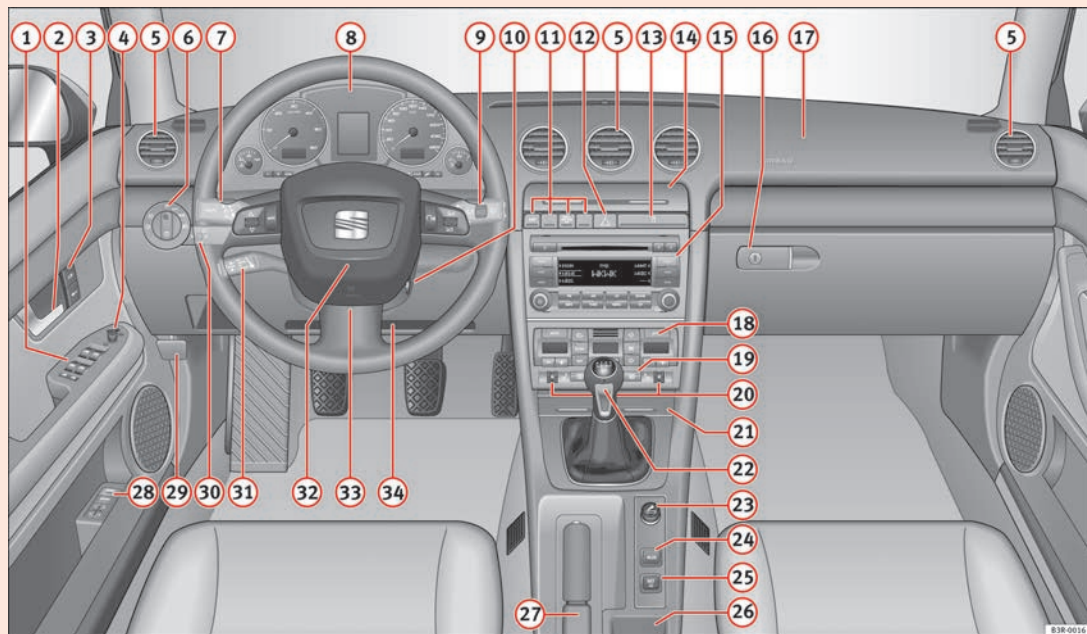

Fig. 36 Some of the equipment listed in this section is only fitted on certain models or are optional extras.
- The arrangement of switches and controls on right-hand drive models\* may be slightly different from the layout shown in ⇒ fig. 36. However, the symbols used to identify the controls are the same. ■